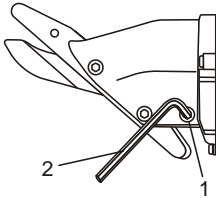

Fig. 1
1. Loosen the swivel head screw (1) using the 4 mm hex key (2) (Fig. 1).
3. When cutting a large workpiece or cutting curves, you may wish to rotate the cutting head to reduce the interference with the tool handle. Refer to "ADJUSTING THE 360° SWIVEL HEAD" (Fig. 1).